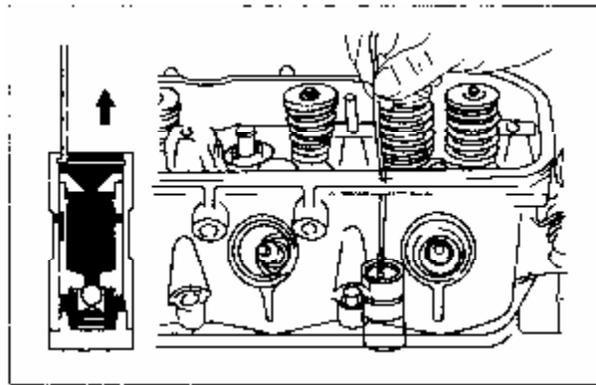

Figure 3-36 Take out Valve Tappet
**3.4.1** Using a wire, follow the procedures in figure 3-36 to take out the valve tappet.